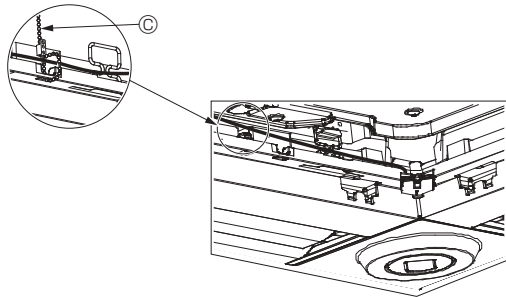

Fig. 5-13
- Secure the i-see Sensor and signal receiver wires to the panel with the fastener as shown in the diagram so that there is no slack in the wires, and then cut off the excess end of the fastener. (Fig. 5-13)
- If the position of the i-see Sensor was changed from the "o" position (E) to the "□" position (F), change the switch settings. (Refer to page 11.)